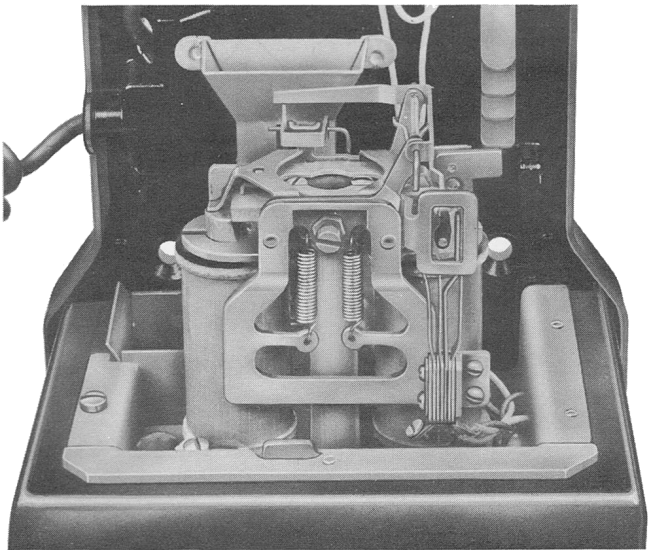

Fig. 29 — Manual or Dial Prepay, 2-Coil Coin Relay
- Manual or dial prepay, 2-coil coin relay (Fig. 29).